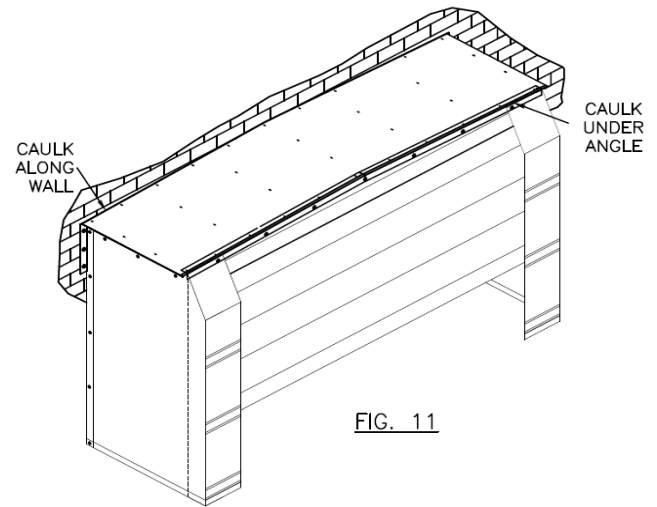

FIG. 11
- ii. Insert #14 Screws and 3/8" washer into holes (Fig. 11).